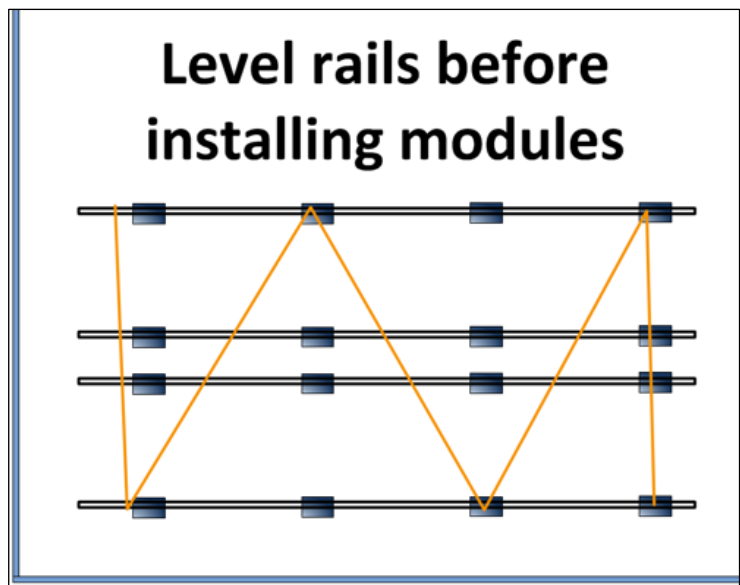

Fig. 9
8. To ensure that the installed modules will appear as an even plane, SunPower recommends that you use a string line and level (or other method) to ensure that the top surface of the rails is even (Fig. 9).
Important! To ensure precise alignment with the finished array's footprint (perimeter), SunPower recommends that you cut rails only *after* you have adjusted them to an even height (Section 1.8.4, Fig. 9) and fully secured them to the attachments.